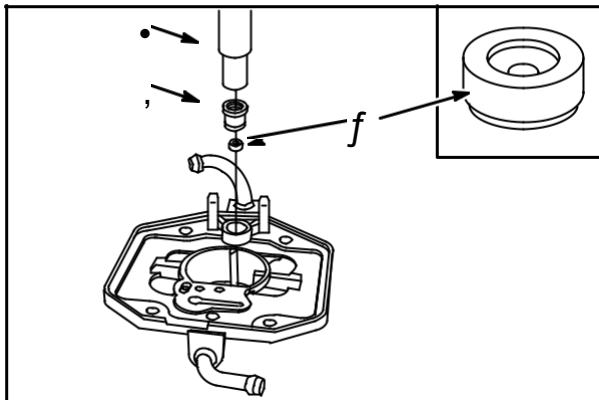

Fig. 106
Install new inlet seat (3) with chamfered end down, **Fig. 106**.